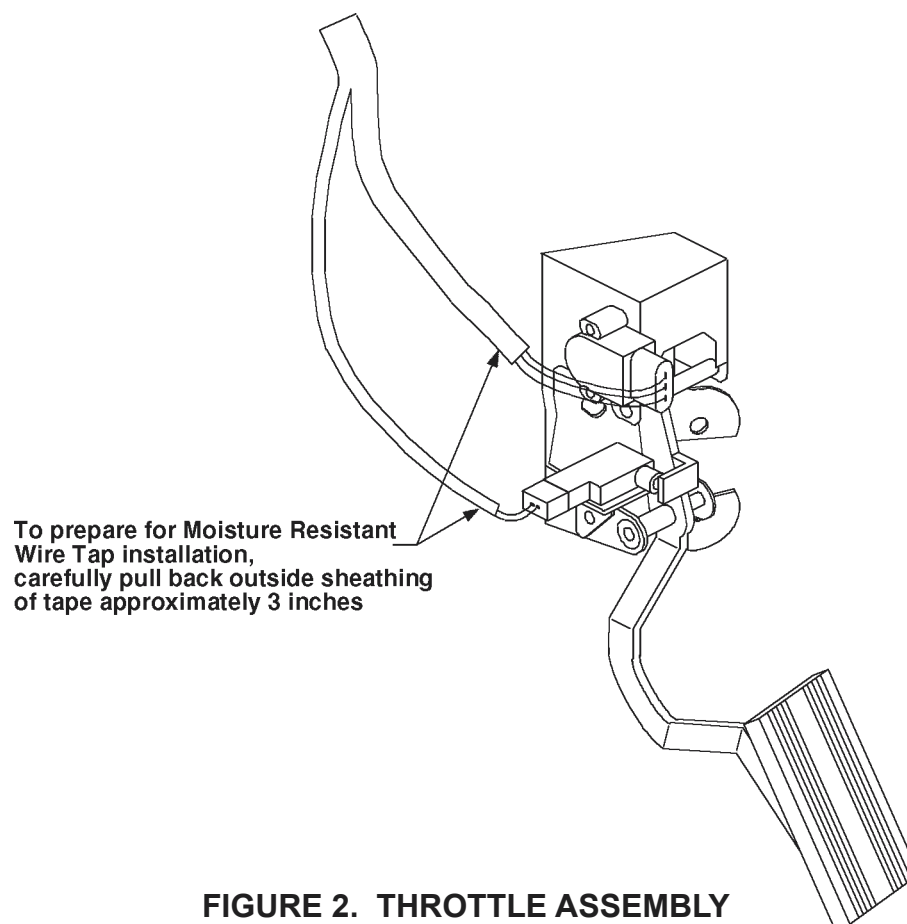

FIGURE 2. THROTTLE ASSEMBLY
STEP 3. Refer to Figure 2. Carefully pull back the outside sheathing of tape by 3" to expose the wires routed to the 3-pin connector. Also, expose the wires routed to the 2-pin connector.